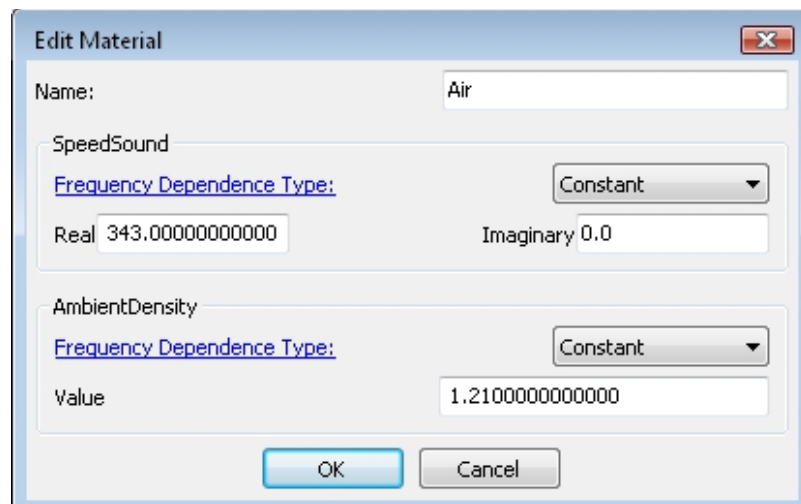

Figure A.38 Edit material properties.
- In the main model menu select: **Model** → **Materials** → **Air**. Right-click on **Air** and select **Edit...**. Figure A.38 will appear.